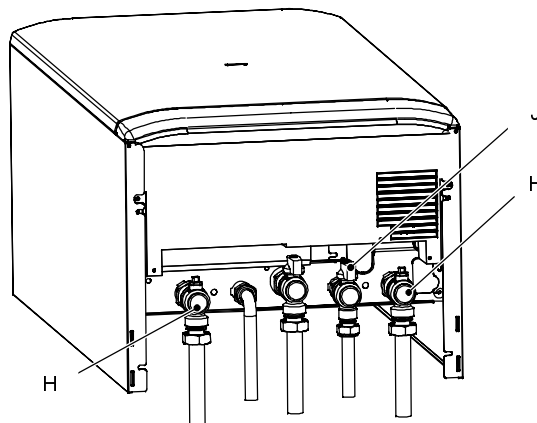

Fig. 7 – bottom view of the boiler
- 1 Close the c.h. circuit flow and return cocks *H*. (Fig. 7).
- 5 Close the d.c.w. inlet cock *J* (Fig. 7);